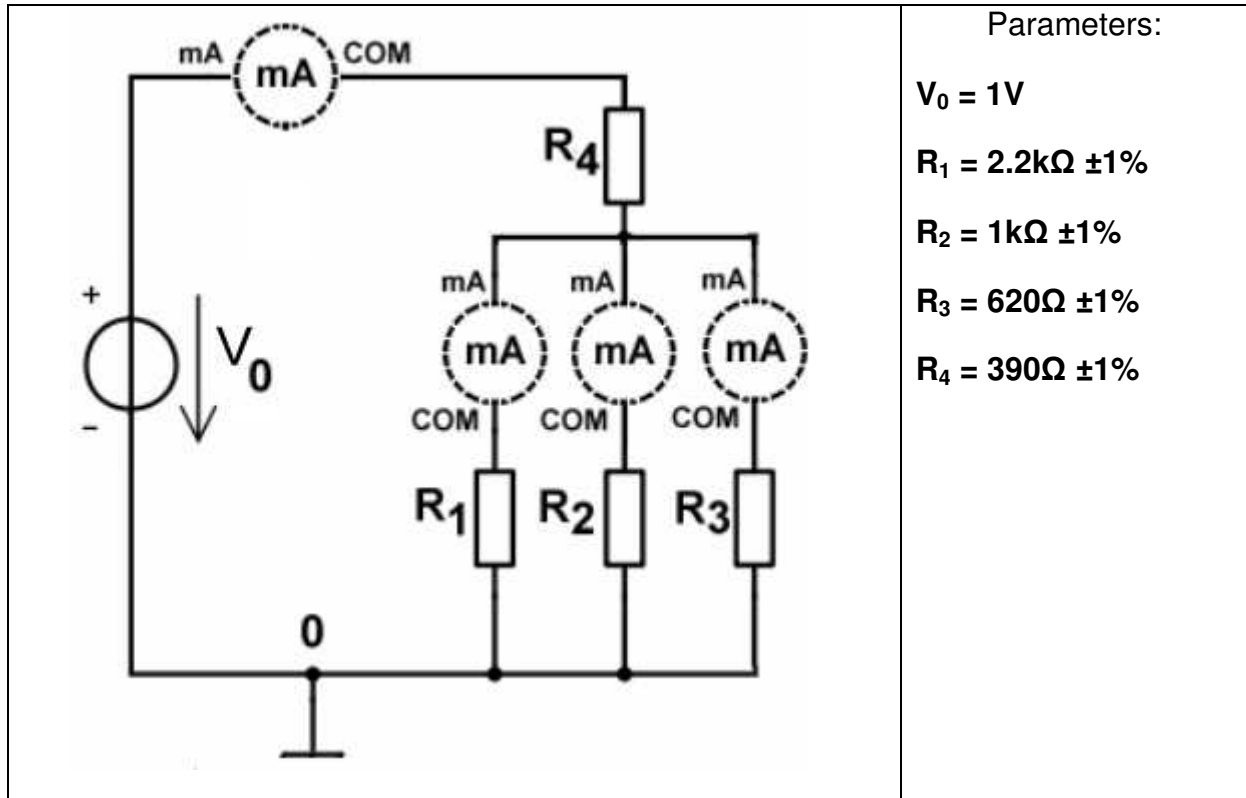

Figure 1.4
1.5.1 Build the circuit seen in figure 1.4. We are going to need only one multimeters. In each turn, connect the current meter in series with one of the resistors, while connecting short circuit in its positions in the other branches.